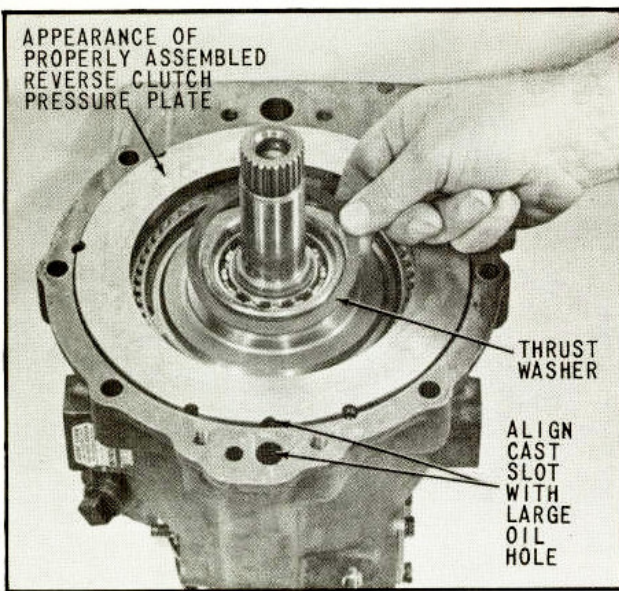

Fig. 53 Installing Thrust Washer and Reverse Clutch Pressure Plate
52. Coat thrust washer with petroleum jelly and assemble, as shown in (Fig. 53).